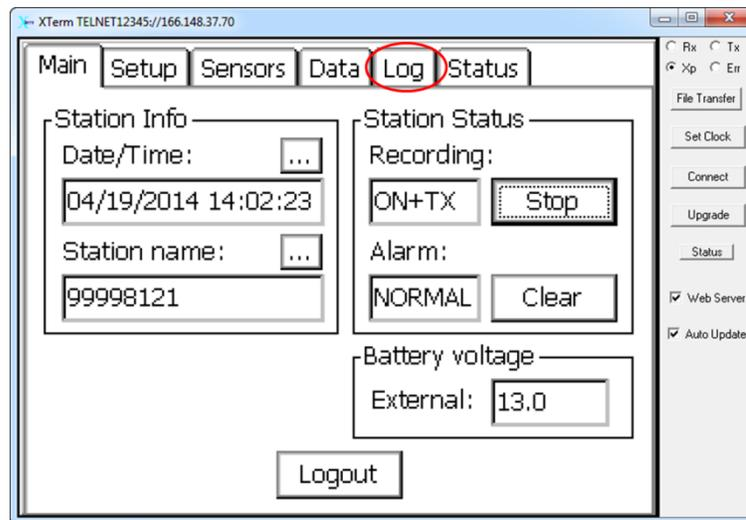
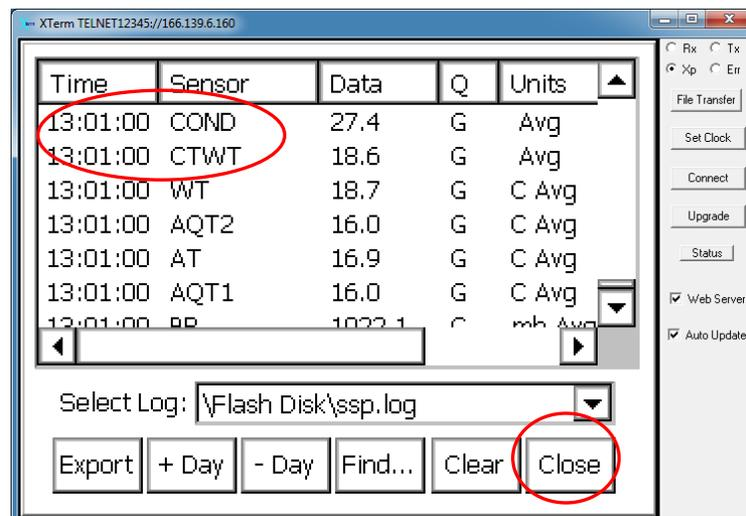
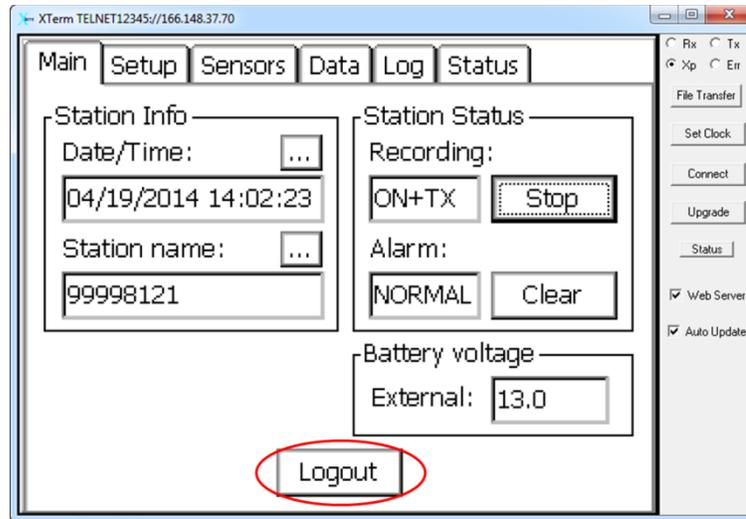

Figure 3-10. Select Log tab.
Figure 3-11. Confirm that data are being recorded.
Figure 3-12. Select Logout button.
- In the Xterm **Setup Access** screen shown in fig. 3-10, select the **Log** tab. The screen in fig. 3-11 will appear.
- Use the **Select Log**: drop-down menu shown in fig 3-11 to select the **\Flash Disk\ssp.log** (if it is not already displayed). Confirm that reasonable conductivity and temperature values are being measured and that values are being reported every 6 minutes. Note that the sensor outputs units of uS/cm, but CO-OPS reports units of mS/cm. To convert from uS/cm to mS/cm, divide by 1000.
- Return to the **Main** screen by clicking the **Close** button (lower right, fig. 3-11), and log out of the DCP [fig. 3-12]. Close Xterm and disconnect the laptop-to-DCP cable.